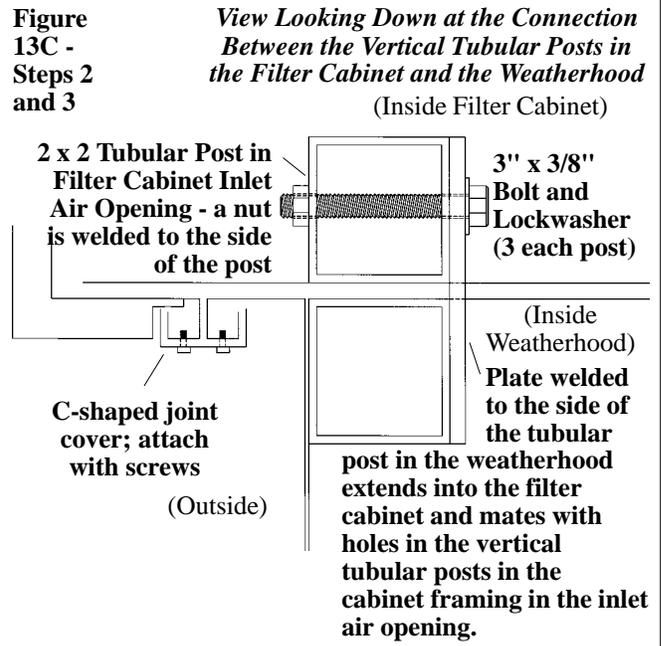

Figure 13C - Steps 2 and 3
- From inside the filter cabinet, verify that the plates extending from the frame of the weatherhood are next to the side of the vertical tubular posts without the welded nut. Bolt the plate to the cabinet post securing it into the nut. Repeat, attaching all plates extending from the weatherhood to the cabinet framing. See Figure 13C.
- On the outside, position a C-shaped joint cover over the vertical joint between the weatherhood and the cabinet and attach with sheet metal screws. See Figure 13C. Repeat on the opposite side.